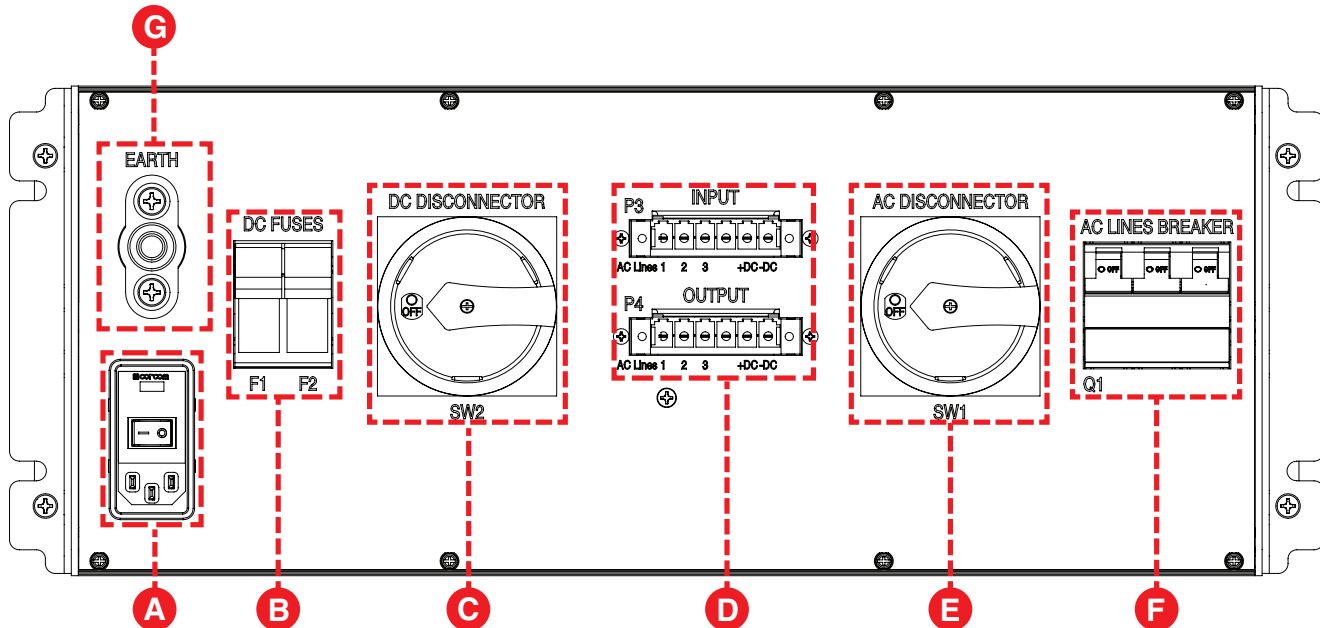

Figure 13: Rear interface
- H. Phoenix terminal connectors: P5 connects cable from P4 on OP1260 power output (see Figure 13)